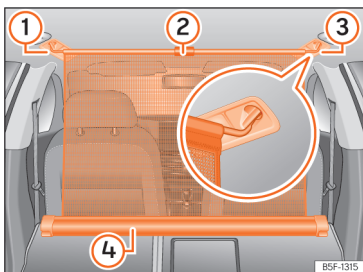

Fig. 186 In the boot: net partition hooked into the rear seat backrests.
- Pull up handle >>> Fig. 186 ② to remove the net from the casing ④.
- Hook in the net partition on the right or left side >>> Fig. 186 ③ (magnified image).
- Hook in the net partition into the housing on the other side >>> Fig. 186 ① by pulling the rod.
The net partition is properly assembled when the T-shaped ends are firmly secured in the corresponding housings >>> Fig. 186 ③ and ①.
- Roll up the net into the casing >>> Fig. 186 ④ lowering it with your hand.